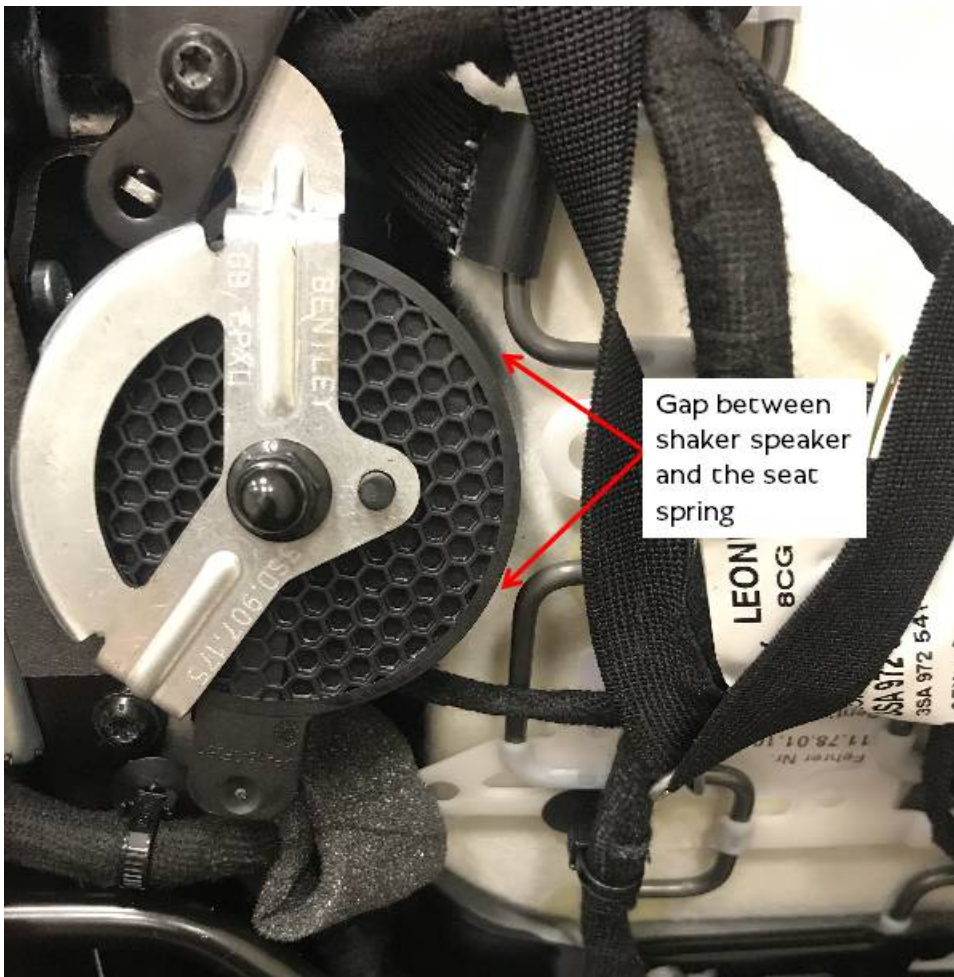

Figure 5
3. Ensure there is a sufficient clearance between the shaker speaker and the seat springs (Figure 5).